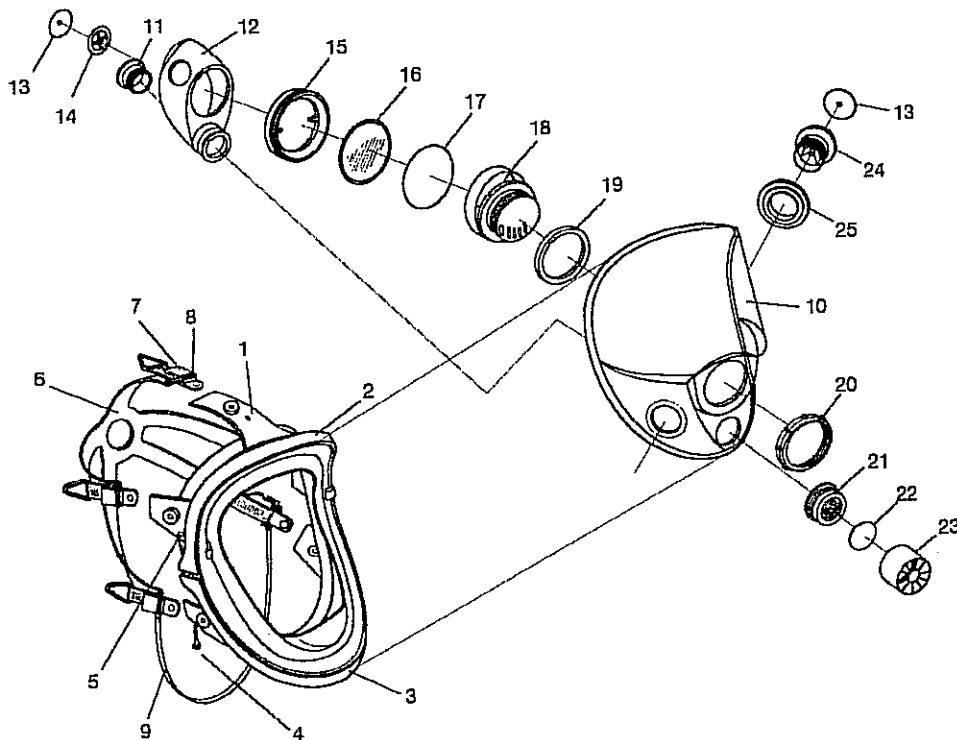

FIGURE 20
9.1 7600 REPLACEMENT PARTS (See Figure 20)